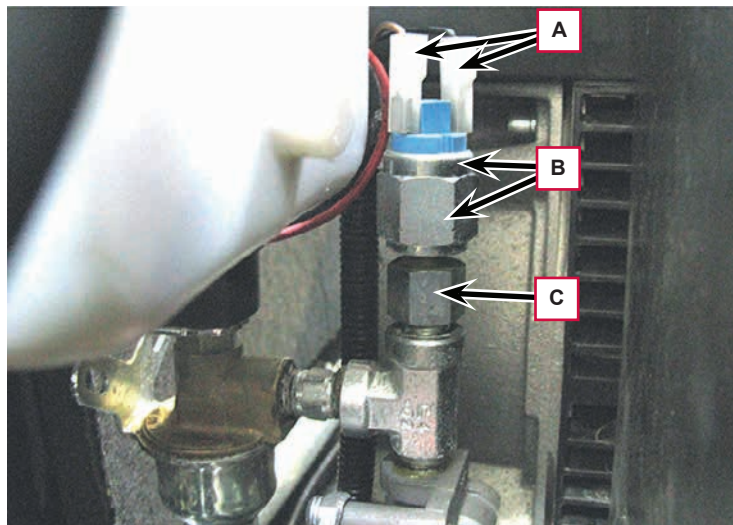

Figure 21
2. Unscrew the fuel solenoid valve (A, Figure 21) from the fitting (B) at the workbench.